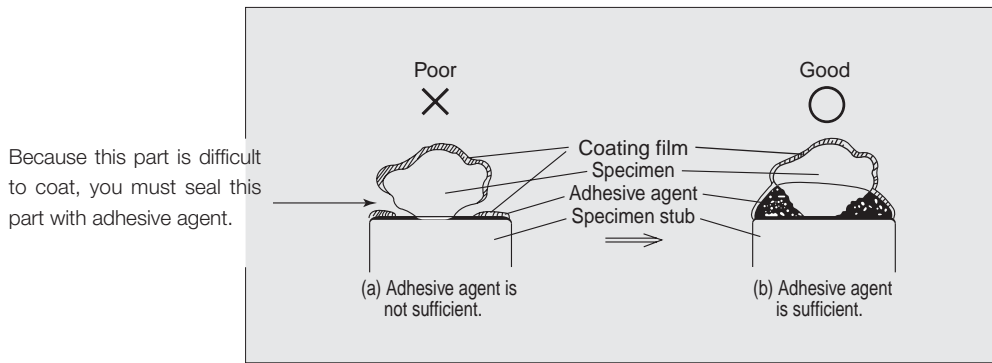

Fig.1 Fixing a bulk specimen on a specimen stub.
(1) When you mount a specimen on a specimen stub, adjust the amount of adhesive agent so that you do not make a part where it is difficult to be coated (Fig. 1).